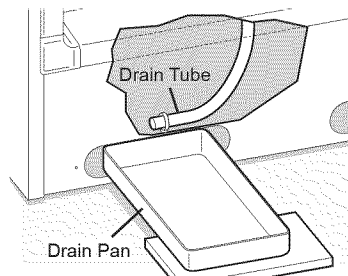

Figure 1
- On upright models with a defrost drain** (Figure 1), remove drain plug on the inside floor of the freezer by pulling straight out. To access external drain tube on models with a base panel, first remove the two screws from the base panel. Locate the drain tube near the left center under the freezer. Place a shallow pan under the drain tube. Defrost water will drain out. Check pan occasionally so water does not overflow. Replace the drain plug when defrosting and cleaning are completed. If the drain is left open, warm air may enter the freezer.